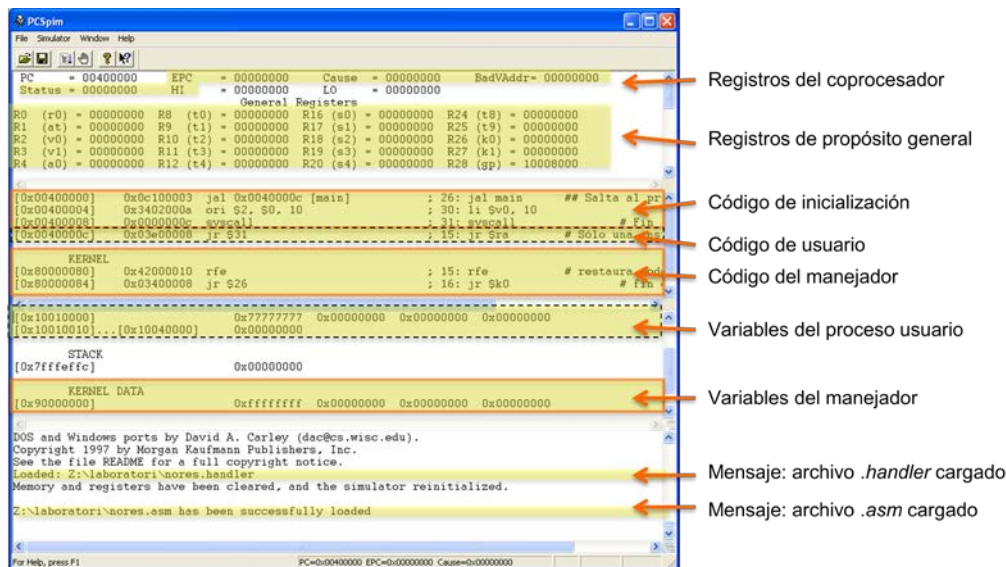

Figure 4. The simulator allows the inspection of the exception coprocessor registers, the handler code and variables together with the user ones
► Select *nothing.handler* as *Trap File* and load *nothing.asm*. In the simulator window look for code, variables and messages, the elements marked in Figure 4 and enumerated next: